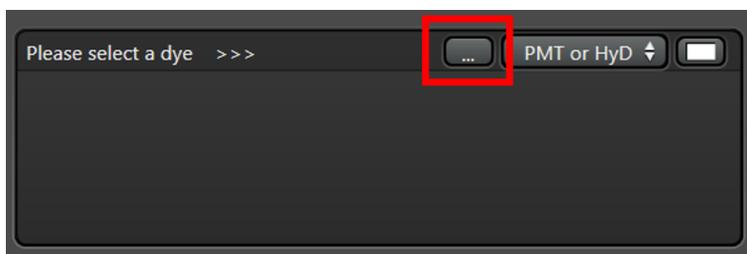

Figure 7
2. In the **Dye Assistant** window, click the '...' button in order to select the fluorescent markers that are present in the sample. See Figure: 7